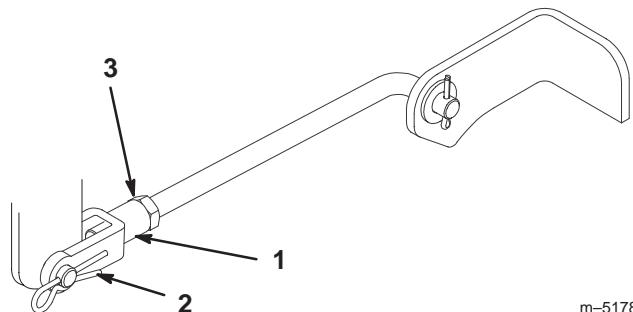

Figure 42
- To adjust the front-to-rear blade slope, remove the hairpin cotter from the front trunnion yokes and loosen the jam nuts (Fig. 42).
- Rotate the yokes on the rods to change the adjustment (Fig. 42). To raise the front of the mower, tighten the yokes (shorten the rods). To lower the front of the mower, loosen the yokes (lengthen the rods).